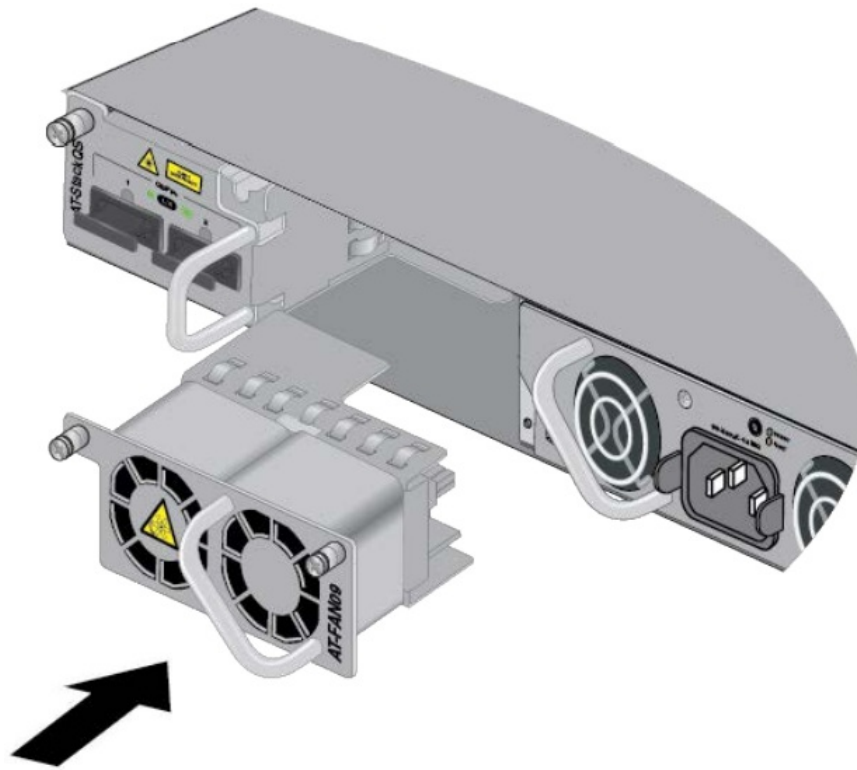

Figure 36. Aligning the AT-FAN09 Module in the Slot
11. Align the AT-FAN09 Module in the slot and carefully slide it into the switch. Refer to Figure 36.